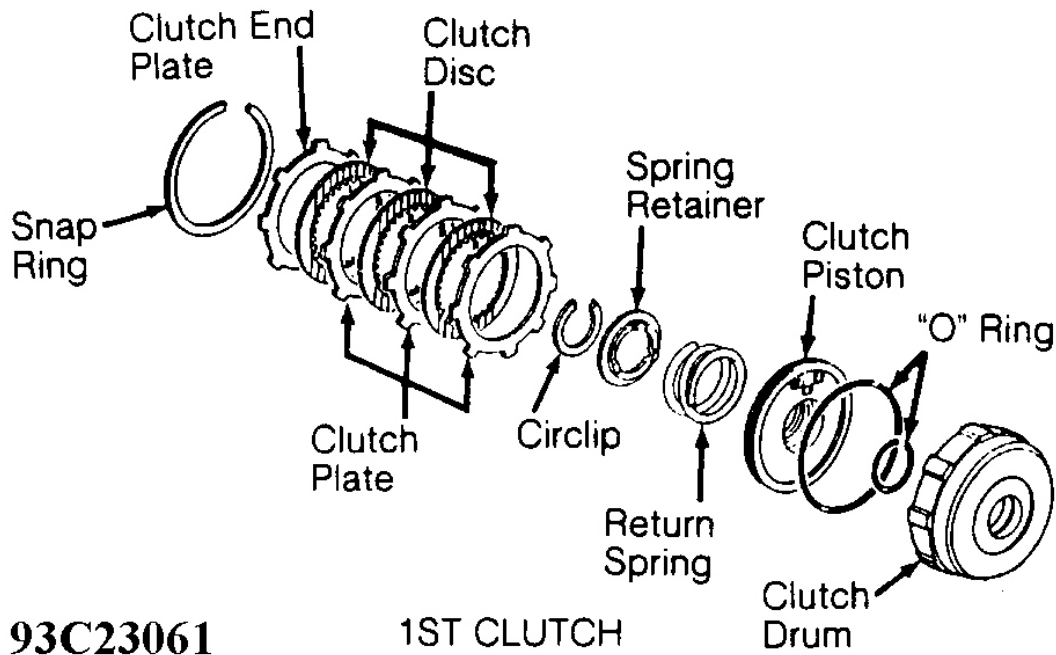

Fig. 24: Exploded View Of Clutch Assemblies (1 of 4)
1. Remove snap ring, clutch end plate, clutch discs and clutch plates. See **Fig. 24** . On 2nd clutch, note direction of disc spring installation. Remove disc spring.